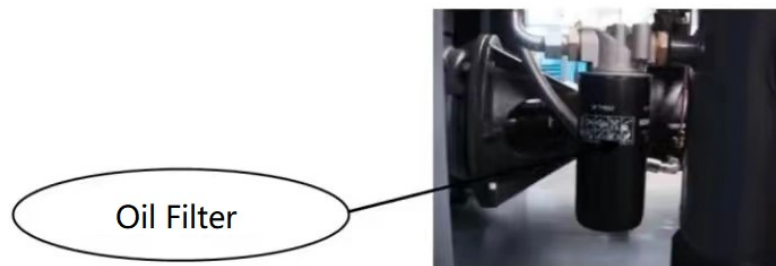

Figure 1-6
j) Check, clean, and replace Oil filter when necessary, as shown in figure1-6.